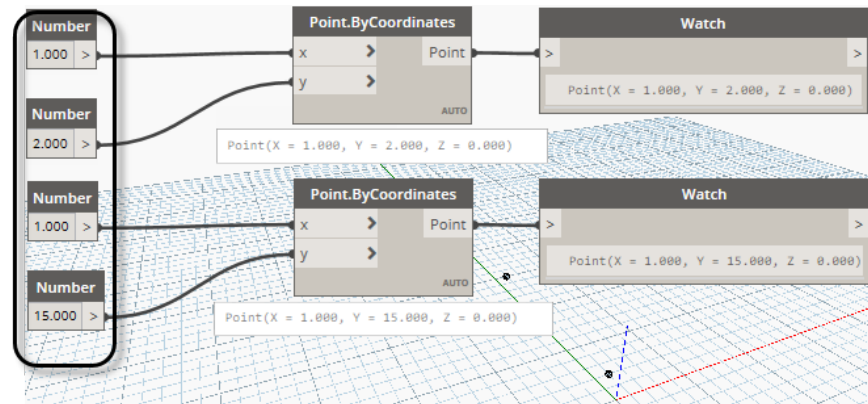

FIGURE 18
15. Change the number values of the copied point to move it (see Figure 18).